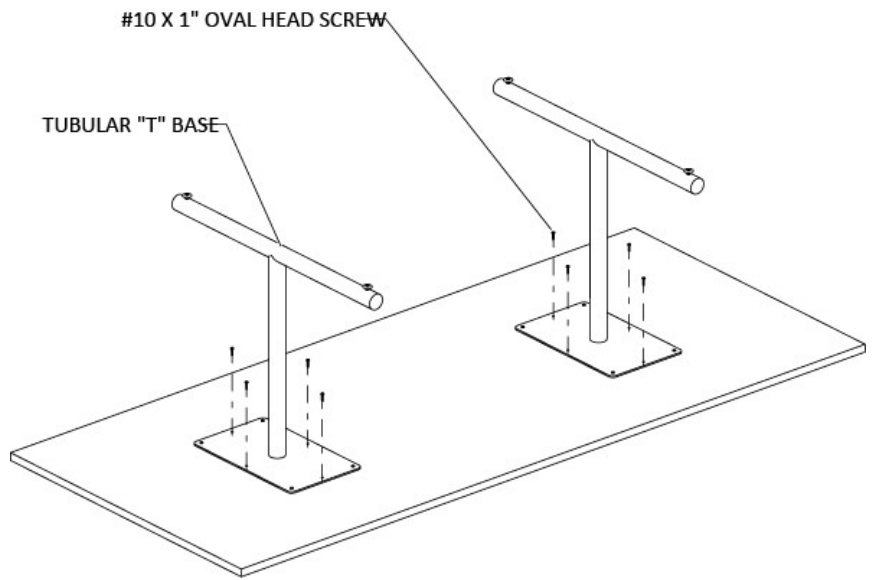

Figure 2
2. Position the tubular "T" base using the pre-drilled positioning holes and attach it to table top using #10 X 1" Oval Head Screws, (Figure 2).